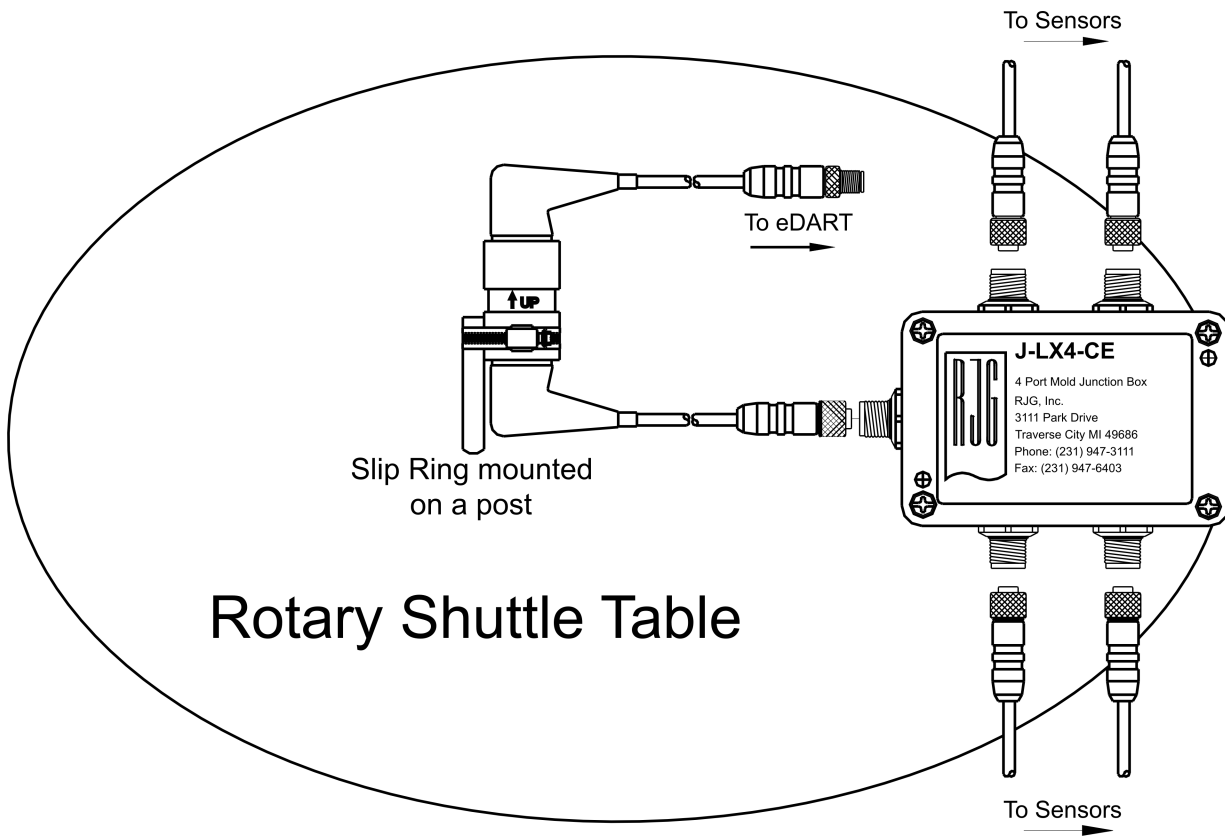

Figure 3: Slip Ring Connections to eDART™ and Sensors
3. Attach the cable on the slip ring assembly to *eDART*™ and the sensors (see Figure 3).